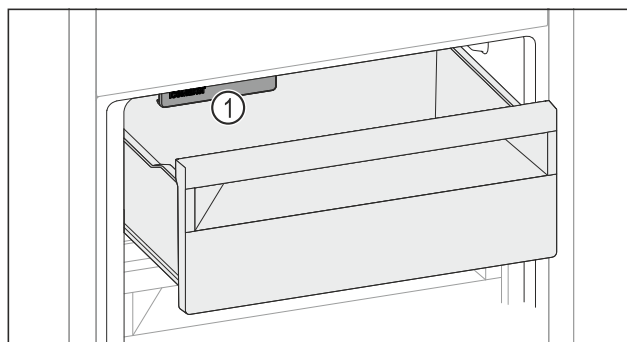

Fig. 142
- ▶ Uzmite u obzir IceMaker Fig. 142 (1).